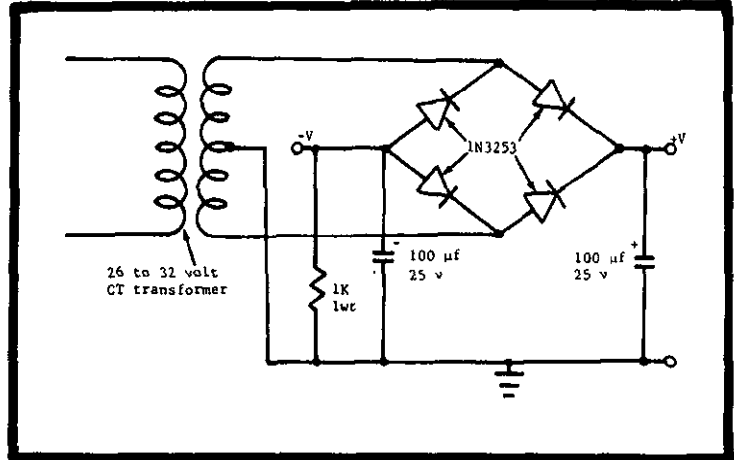

FIGURE 5. Circuit of a Power Supply for the Model 300. Keithley Part No. TR-78 can be used as the transformer in the circuit.
d. The Keithley Model 3012 Power Supply provides all the power necessary to drive up to 3 Model 300s (See Section 5). Or, a power supply can be constructed using the circuit shown in Figure 5.